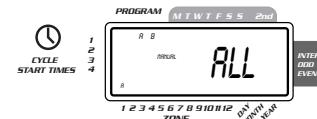

FIGURE 10: Semi-Automatic Watering for Stations Assigned to A and B Programs
- Turn the rotary dial to **AUTO**, then press the **MANUAL** key. The display will show "**AB**", "**MANUAL**", and "**ALL**" will be blinking [See Figure 10]. This indicates all stations will semi-automatically water for their assigned durations in sequence.